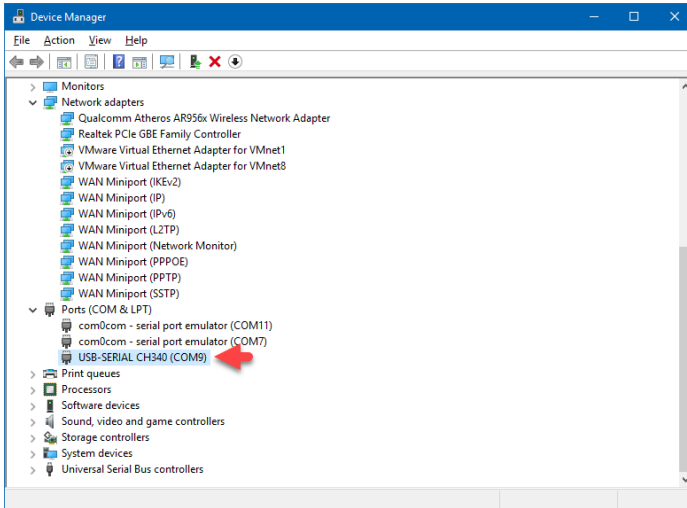

Figure 1.6. NodeMCU's COM port in Device Manager
- Open **Device Manager** in order to find NodeMCU's COM port as shown in Figure 1.6.